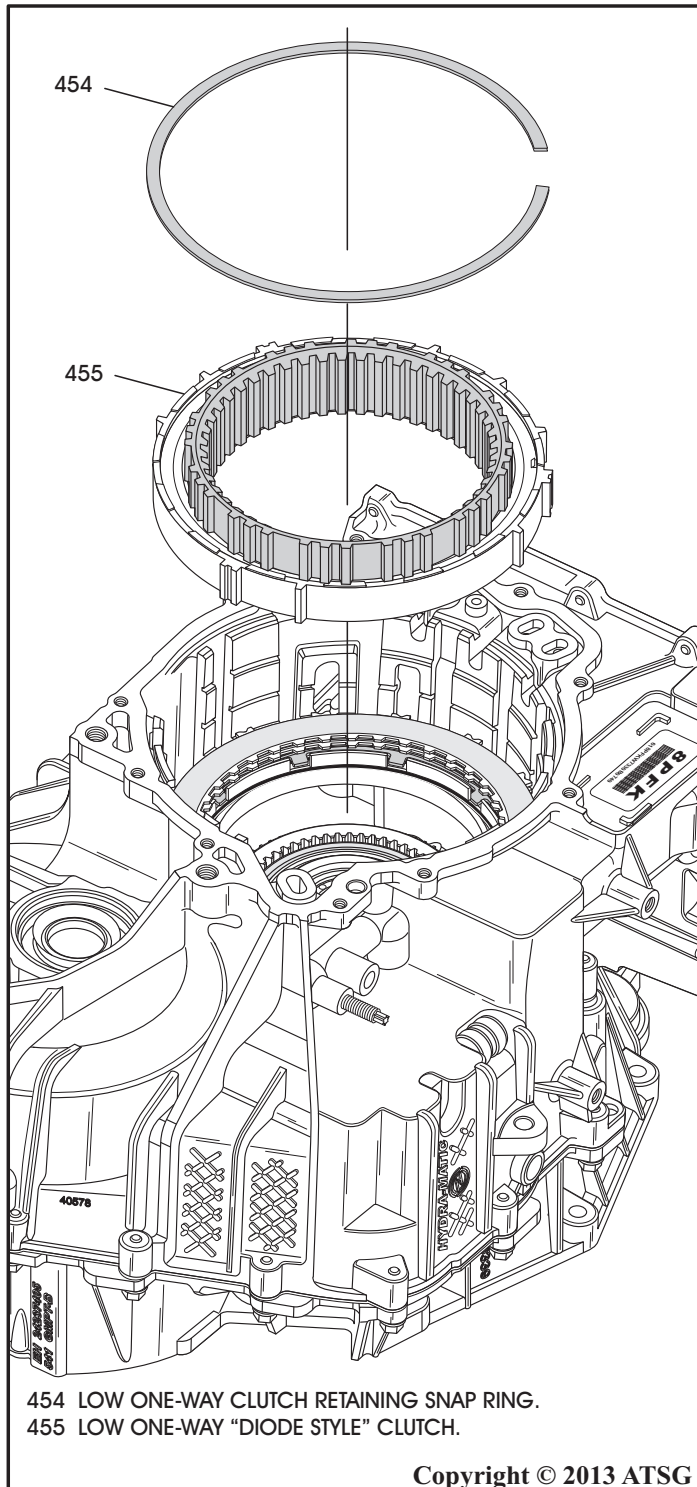

Figure 65
44. Remove the snap ring from the case groove that retains the one-way clutch assembly, as shown in Figure 65.
45. Remove one-way "diode style" clutch assembly from the case, as shown in Figure 65.